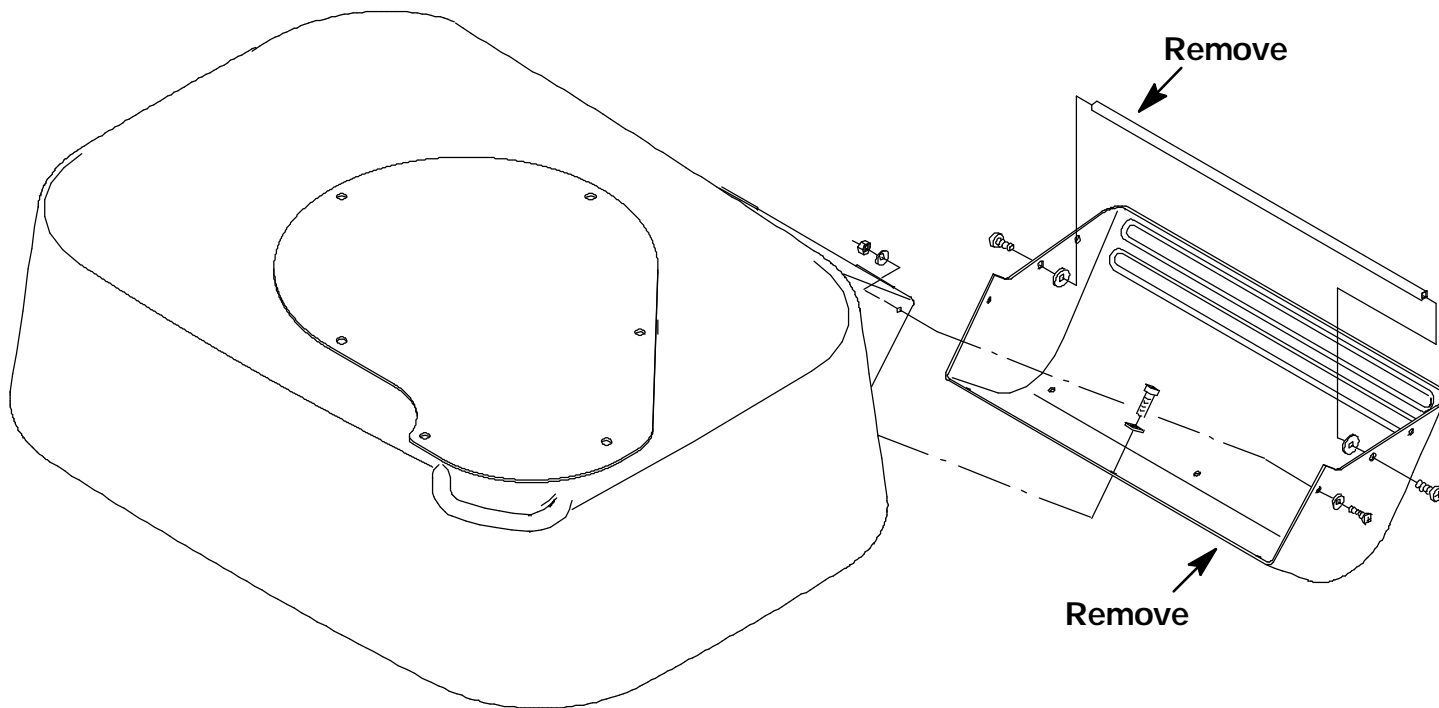

FIG. 1 - Vacuum Fan Housing
(Refer to FIG. 1 and 3)
4. Remove and discard the existing fan outlet guard and round tubes. (Refer to FIG. 1)